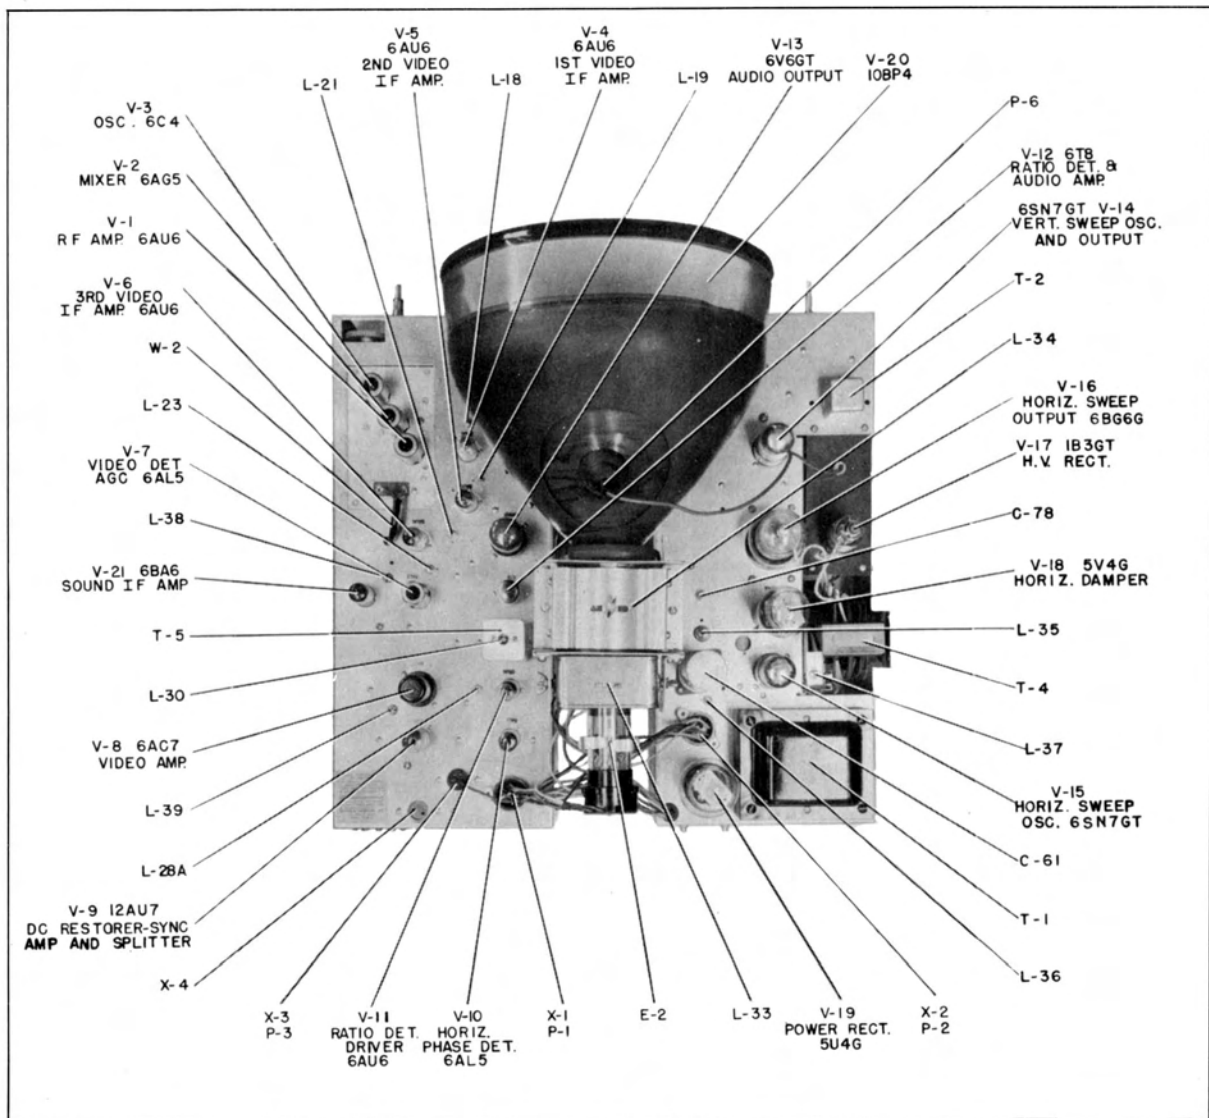

Figure No. 7. Top View of Receiver (cabinet and power supply cover removed)
Step 4. Adjust L-18 and L-21 for maximum reading on the voltmeter. Retard the output of the generator, as necessary, to keep an on-scale reading on the voltmeter. See Figure No. 7 for location of L-18 and L-21.